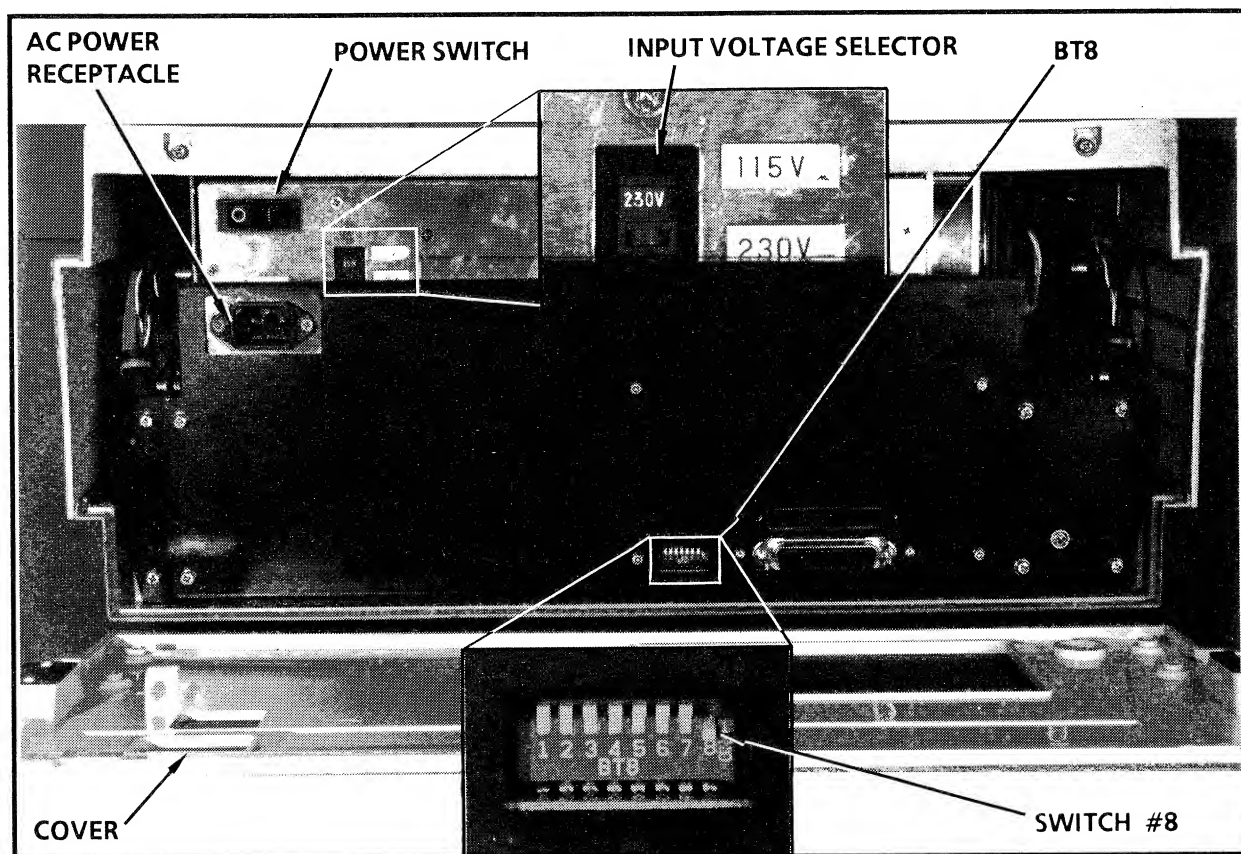

Figure 2-6. C2700 Plotter Rear Panel (Plastic Cover Removed)
1. Using a Phillips head screwdriver, loosen the four screws securing the rear plastic cover to the plotter. Remove the cover and set it aside (Figure 2-6).
2. On the ac power entry panel, push the input voltage selector switch down to the 230 Vac position. Refer to Figure 2-6.
3. Locate the BT8 DIP switch on the rear panel and put the last switch on the right (#8) to the down (ON) position (Figure 2-6). This enables the plotter to accept international media sizes (A3 or A4). Ensure the remaining switches are in the up (OFF) position.